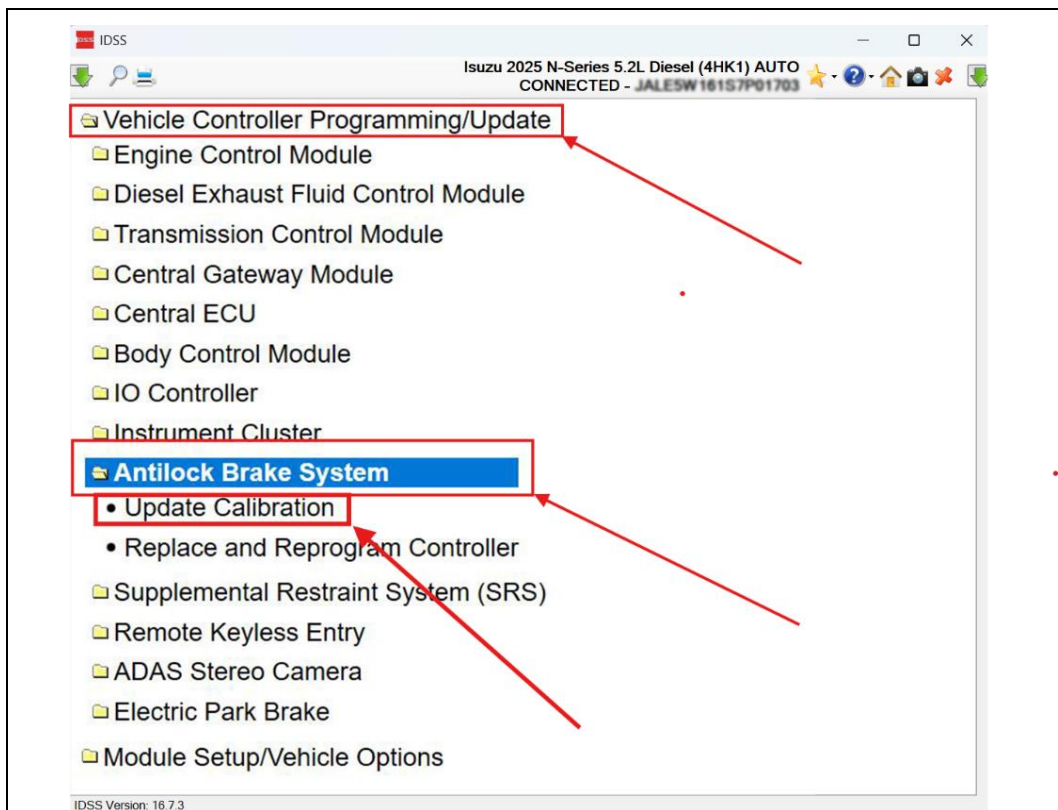

Figure 3.
6. Select **“Vehicle Controller Programming/Update”, “Antilock Brake System”, and “Update Calibration”.** (See Figure 3.)